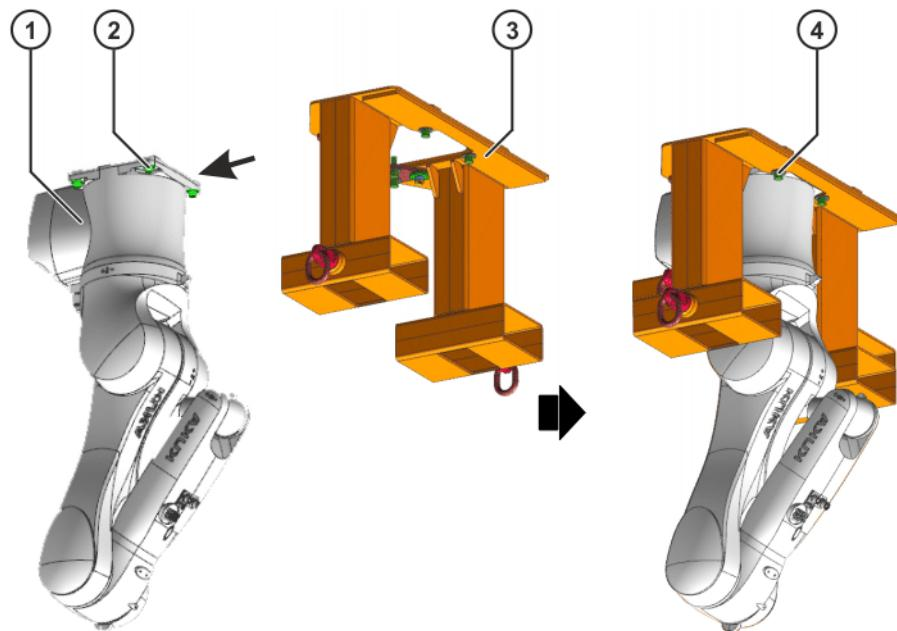

Fig. 11-7: Fastening the Load Lifting Attachment to the robot
12. Carefully push the Load Lifting Attachment onto the base frame of the robot from the front (**>>> Fig. 11-7**).